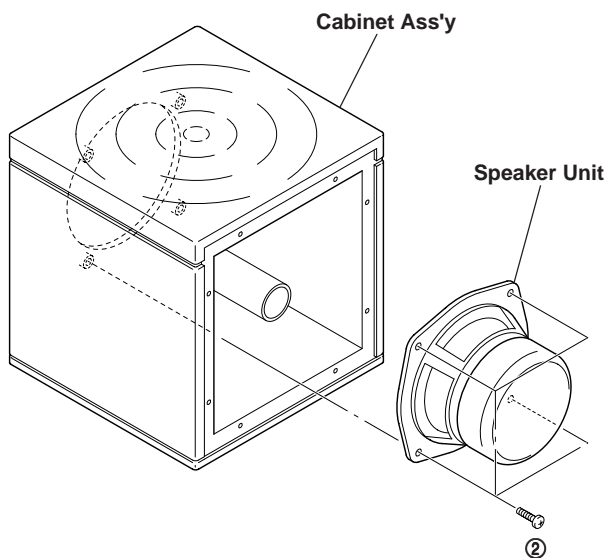

Fig. 2
- Remove 4 screws (②) in Fig. 2, and remove the speaker unit from the cabinet ass'y.